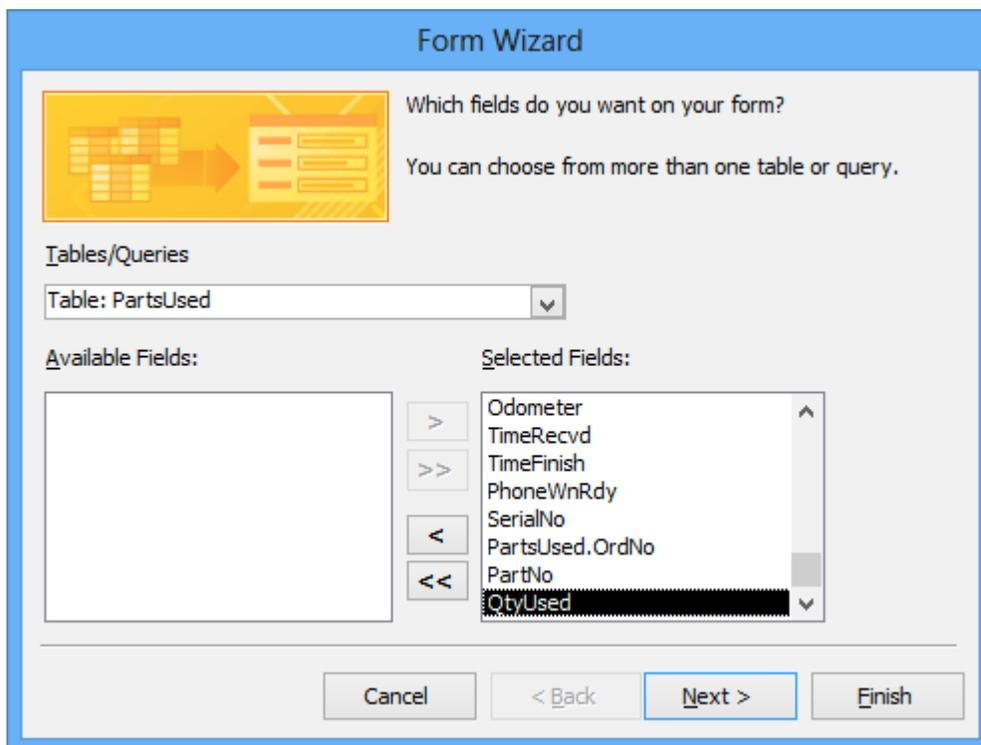

Figure 3: Field Selection Window of the Form Wizard with *PartsUsed* Fields Selected
- In the same wizard window, go up to the Tables/Queries selection box where the *RepairOrder* table name appears and select a different table, the *PartsUsed* table. Now, the fields of the *PartsUsed* table appear under Available Fields. Click the >> button to move all of the fields to the right side (Selected Fields). Note, the Selected Fields window (Figure 3) contains fields from both tables. Click the **Next** > button when finished.